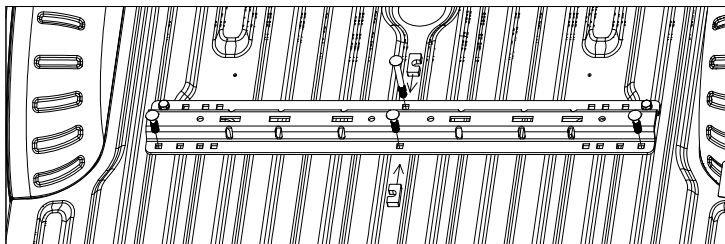
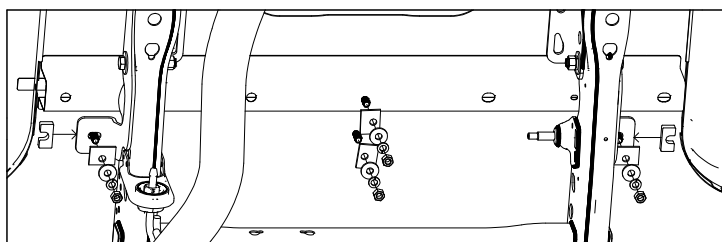

Figure D4: View looking into truck bed from rear of truck.
Figure D5: View looking up at underside of bed.
3. **Install the carriage bolts.** Locate the 1/2" X 4-1/2" carriage bolt, 1/2" X 2" carriage bolts, offset rectangle washers, 1/2" flat washers, 1/2" lock washers and 1/2" finish nuts. Install a 1/2" carriage bolt through the mounting rail in each of the four remaining holes in the rear rail. The 4-1/2" carriage bolt belongs in the forward center hole and should pass through the tube spacer placed under the rail earlier, see Figure D4. Install a u-shaped spacer on the top of the bed under the rail in the two center connections and under the bed above the frame bracket flanges on the two outside connections. Fasten each of the carriage bolts with an offset square washer, 1/2" flat washer, lock washer and nut, see Figure D5. Hand tighten each nut.